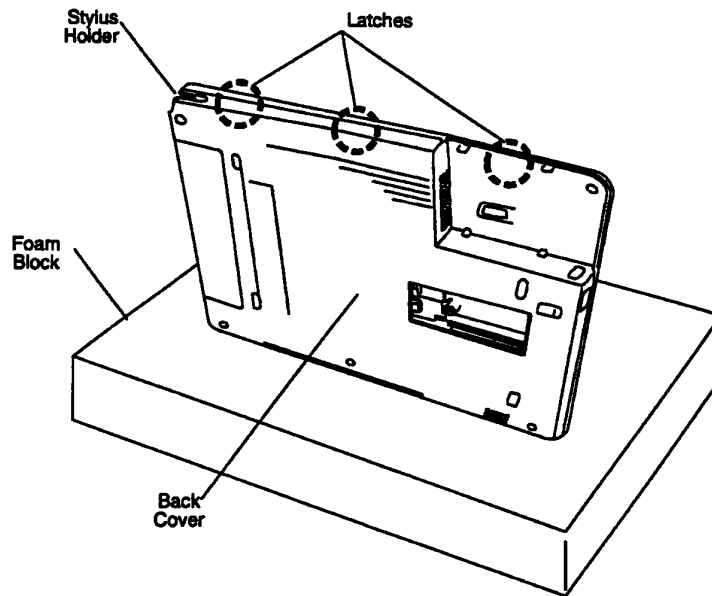

Figure 4-12 Position for Separating Side Latches
5. Stand the unit on the I/O port side (back cover to the left, screen to the right, Figure 4-12).